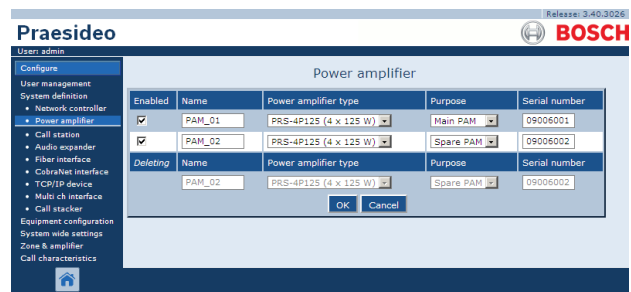

figure 42.10: Delete power amplifier, step 3
- Click the *Delete* button. A screen similar to the one in figure 42.10 appears in the main frame of the web interface.